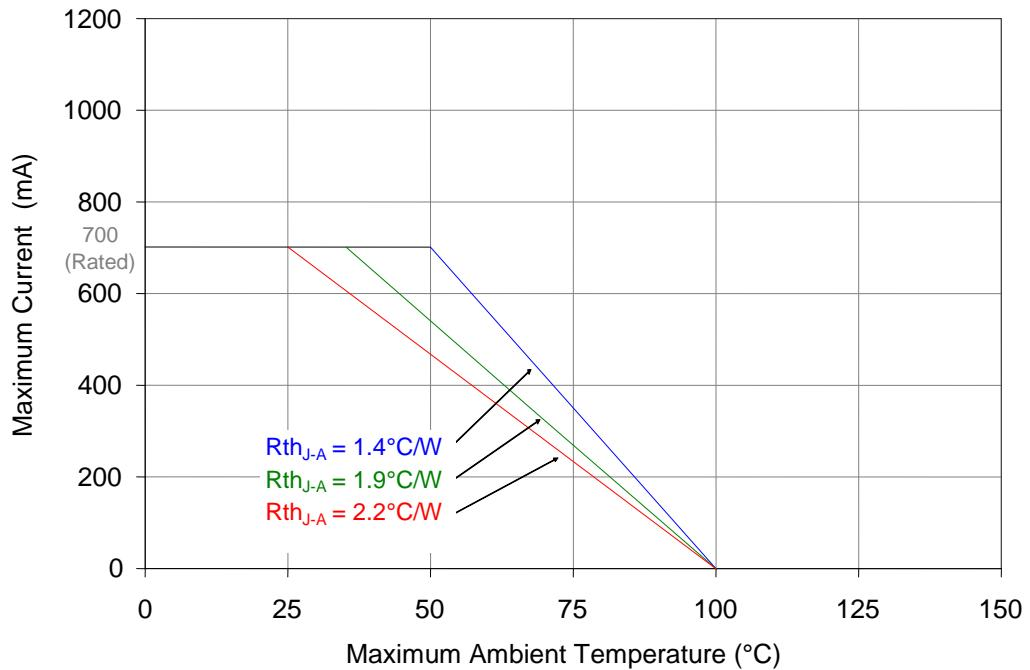

Figure 10: Maximum forward current vs. ambient temperature based on $T_{J(MAX)} = 100^\circ\text{C}$.
1. Maximum DC forward current (per die) is determined by the overall thermal resistance and ambient temperature. Follow the curves in Figure 10 for current derating.
Notes for Figure 10: